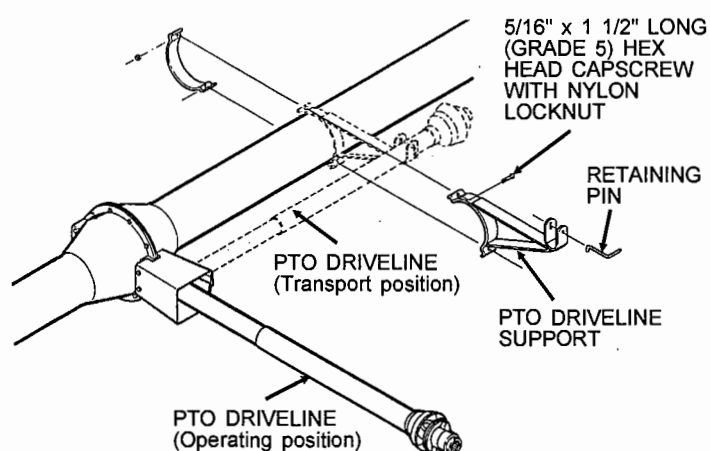

FIG. 61
Step 4. Place the PTO driveline support 51" from the center of the gearbox (toward the discharge end of the auger). Secure that support to the tube with a halfband and two 5/16" x 1 1/2" long (grade 5) hex head capscrews and nylon locknuts. See Fig. 61.
Step 8. Remount the PTO driveline support onto the other side of the tube. See Fig. 61 above.